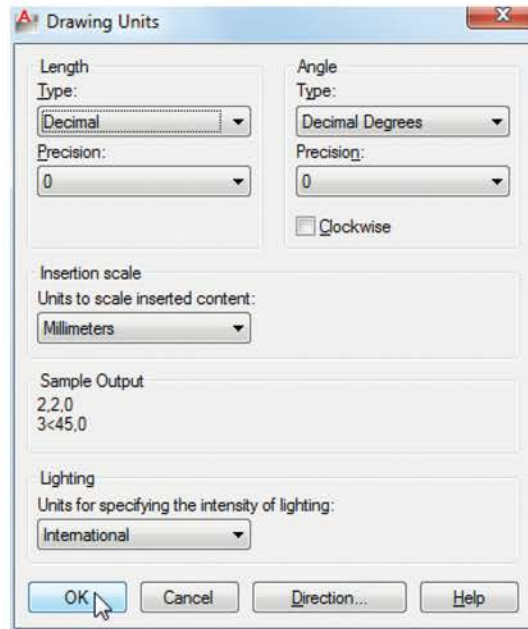

Fig. 1.27 Setting Units to 0
- In the command palette, enter **units** and *right-click*. The **Drawing Units** dialog appears (Fig. 1.27). In the **Precision** popup list of the **Length** area of the dialog, *click* on **0** and then *click* the **OK** button. Note the change in the coordinate units showing in the status bar.